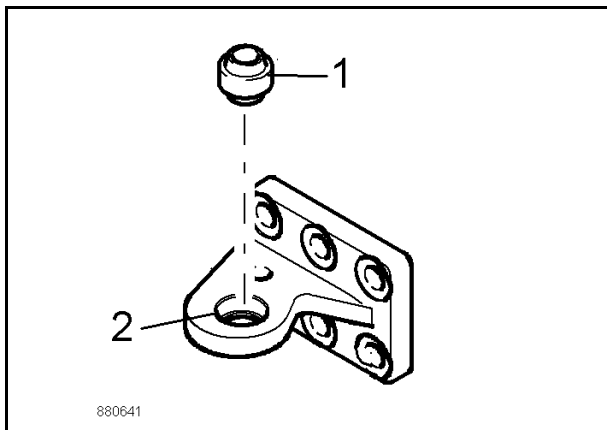

Fig. 10
- Knock the rocker bearing 1 (Fig. 10) into the cylinder eye (2).